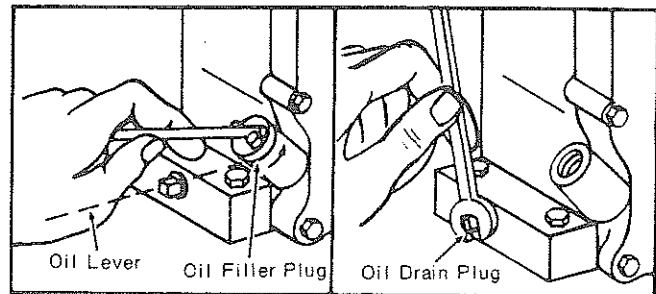

Figure 6
3. Remove the engine dipstick and fill crankcase with oil (See Fig. 6) recommended for specified temperature zone. Refer to "Maintenance" section of this manual.
3. Check the oil for proper level (See Fig. 6). See the Engine Manual for correct grade and quantity of oil to use.